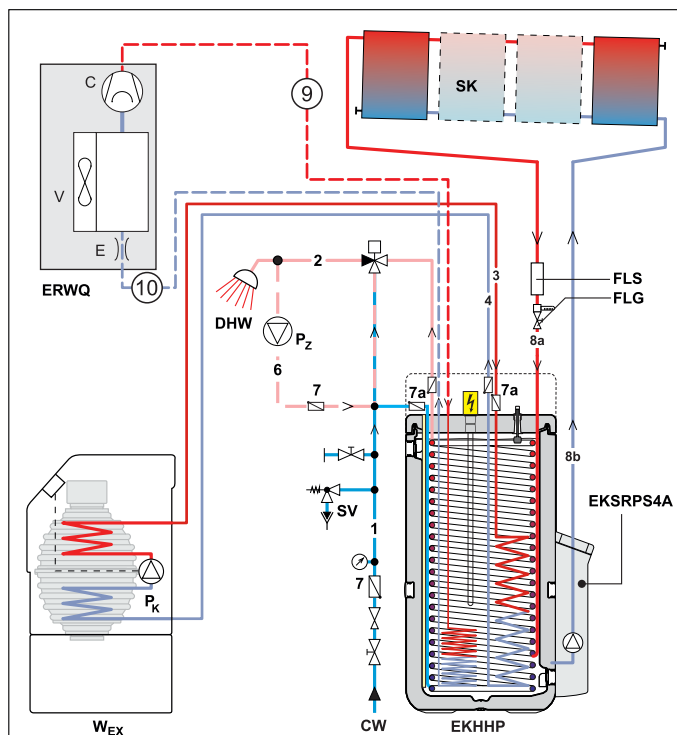

Fig. 4-5 Hydraulic connection - legend see Tab. 4-2
- Create hydraulic connections on the DAIKIN EKHHP (see Fig. 4-5).
- Carry out hydraulic system incorporation in accordance with Fig. 4-5.
Tab. 4-2 Legend for Fig. 4-5